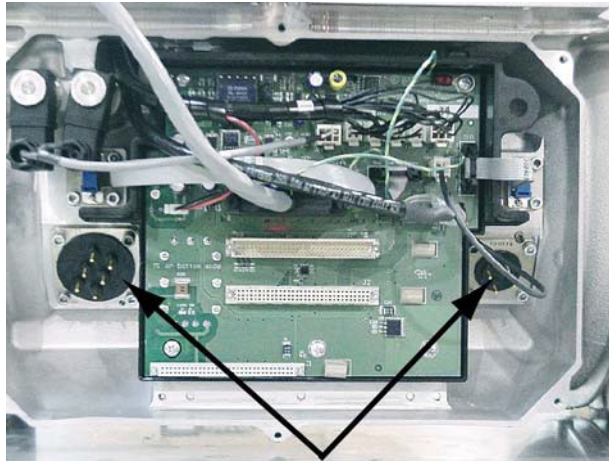

Figure 1 - Bearing Power Feed Through
1. Carefully withdraw the PWM cluster blocks from the Bearing Power Feedthroughs on the front and rear radial bearings. Remove the cluster blocks squarely by hand to prevent damage to the connector pins. Refer to Figure 1.
1. Align the PWM's heat sink with the two (2) guide pins in the main compressor housing.
3. Secure the PWM's heat sink to the main compressor housing with three (3) screws.
5. Place the two (2) cluster blocks on the front and rear radial bearing feedthroughs. See Figure 1.